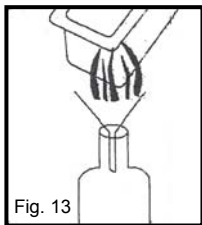

Fig. 13
- The oil does not need to be changed after each use. In general, the oil will be tainted rather quickly when frying food containing a lot of protein (such as poultry, meat or fish). When oil is mainly used to fry potatoes and is filtered after each use, it can be used 8 to 10 times. However, do not use the same oil for periods longer than six (6) months.
- To filter the oil, first make sure the oil has cooled and then empty the oil from the oil container into another container or bottle. (Fig. 13)